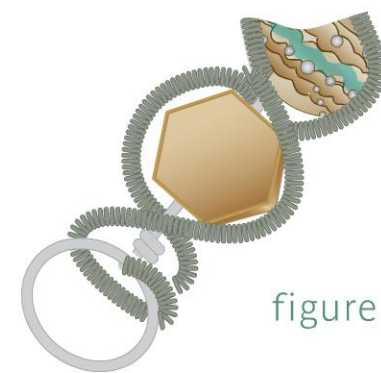

figure 6
- 1 4** Use chain-nose pliers to bend the end of the 20-gauge wire. Tuck it down against the 16-gauge frame or into the loop space (Figure 6).